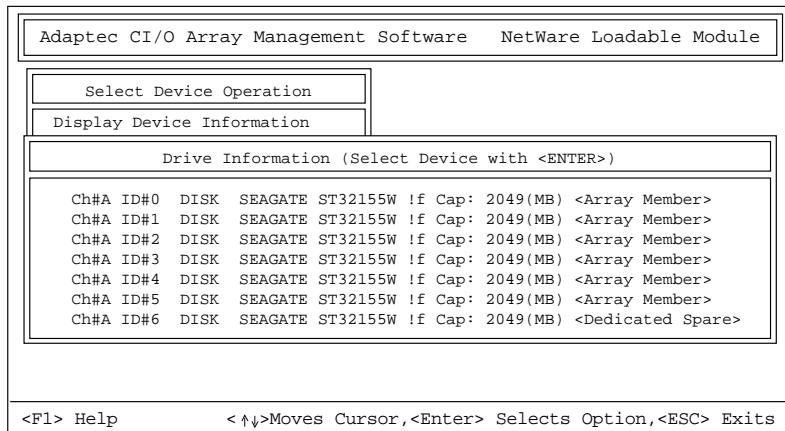

Figure 4-5. Drive Information
- 2 Select **Display Device Information** from the Select Device Operation menu. A screen similar to Figure 4-5 appears.